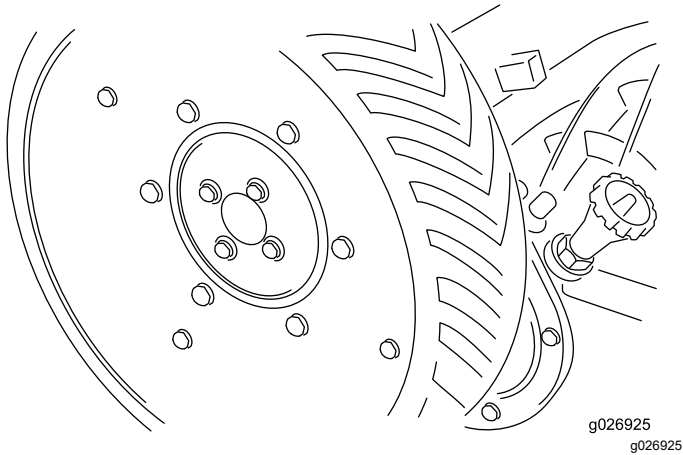

Figure 3
2. Install the drive wheels with cap screws and lock washers (Figure 3).